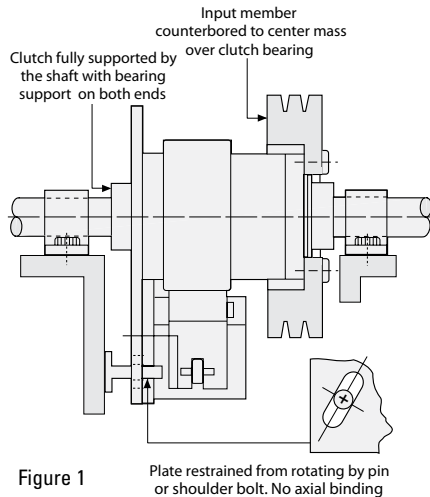
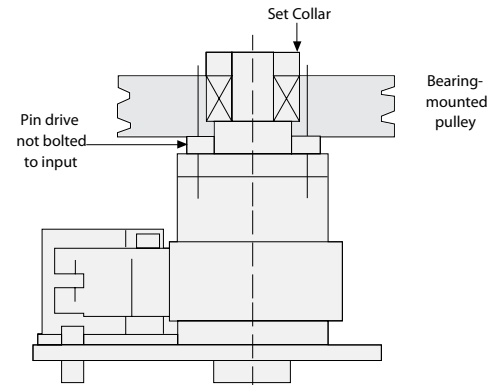

Figure 1
Figure 2
All Genuine Wrap Spring clutch products are designed for parallel shaft applications where they are fully supported by the shaft on which they are mounted. In the case of wrap spring clutch/brakes (CB) the through shaft is always the output. Connecting the parallel shaft to the CB input can be accomplished by use of a belt, chain or gear drive. CB models must be mounted with the shaft(s) in a horizontal position (Figure 1). If vertical mounting is required, see Figure 2.
See Figure 2 note.
Figure 1 - Shows an ideal CB mounting. The unit is locked to the output shaft with a key and set screws. The mounting plate is restrained from rotating with a pin, but is not restrained axially, reducing the load on the CBs internal plate bearing.
Figure 2 - When applying a wrap spring vertically, the mating drive member (pulley, sprocket, or sheave must be bearing-supported as shown in Figure 2. This is necessary to eliminate the axial loading that will occur from the weight of the mating drive member (pulley, sprocket or sheave).
Illustrate how proper support can be provided. Input members are generally face-mounted to the input hub of the unit as shown on Figure 1. This is facilitated by drilled and tapped holes provided in the free hub flange.